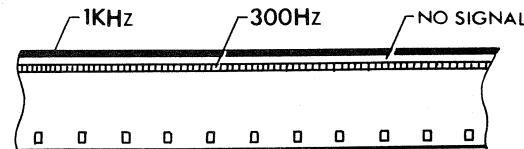

Fig.35
- The film to be used is recorded as shown in Fig. 35.
4. After reassembly, make sure that ① has no left-right or back-forth play and has smooth rotation.